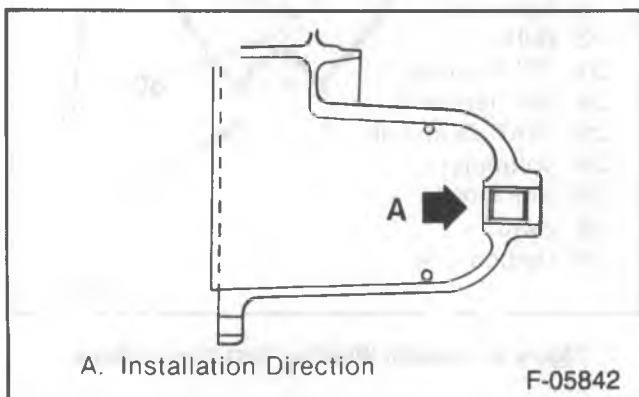

Figure 12—Drive End Bearing Installation
4. Drive end bearing into the drive housing assembly (figure 12).